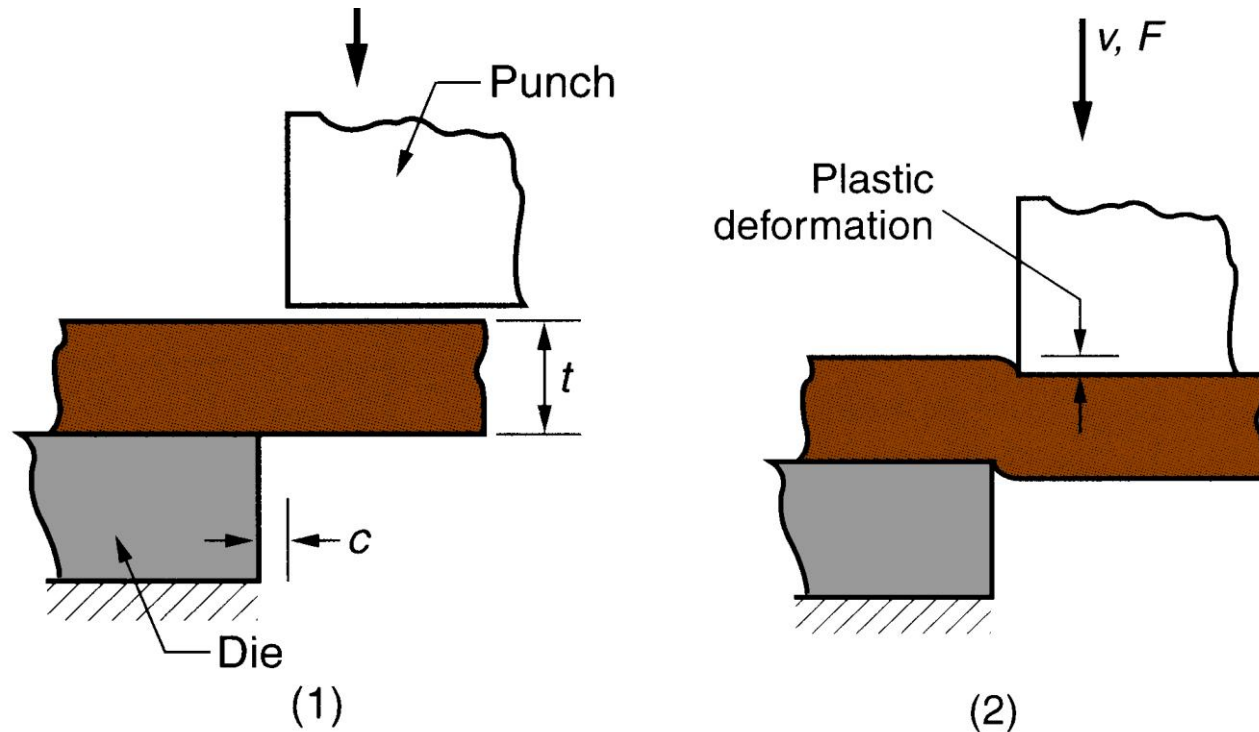

Figure 20.1 Shearing of sheet metal between two cutting edges:
Figure 20.1 Shearing of sheet metal between two cutting edges: (3) punch compresses and penetrates into work causing a smooth cut surface; (4) fracture is initiated at the opposing cutting edges which separates the sheet.